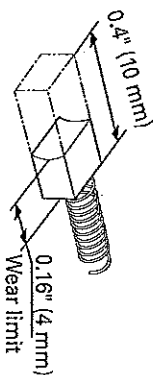

Fig. 29
- 3. Inspecting the carbon brushes (Fig. 29)